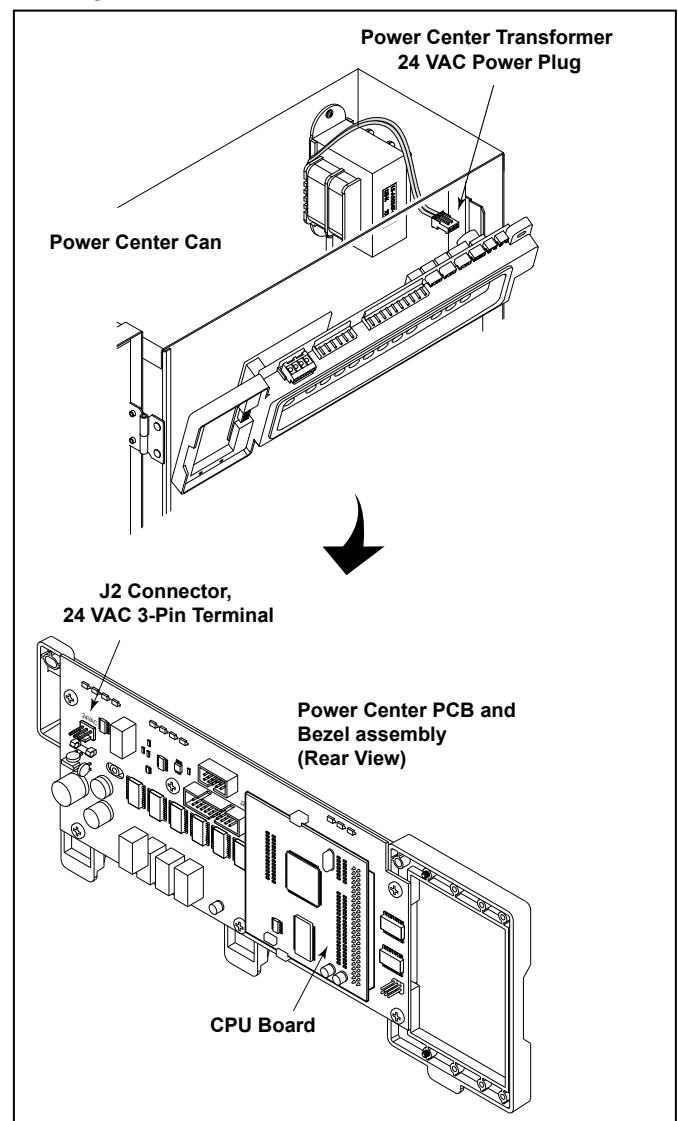

Figure 2. Replacement of Power Center PCB and the CPU Board Assembly
3. Unscrew and remove the power center PCB and bezel assembly from the power center. See Figure 2.
3. Unplug the power center transformer 24 VAC power plug from the 24 VAC 3-pin terminal on the power center PCB and bezel assembly as shown in Figure 2.